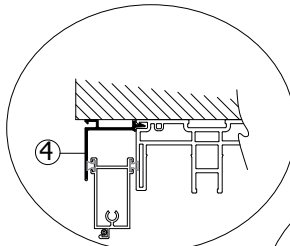

Figure 3
2. Locate the frame jambs. If an add-on fin (Item 28; Figure 5) needs to be installed, locate the fin(s) and remove the frame jamb anchor plates (Item 6; Figure 6) closest to the exterior of the opening. Install the add-on fins in place of the anchor plates. Before installing add-on fin into the head, remove the header blocks and screws (Figure 3). Slide the fin into the frame head. Replace the header blocks and screws.